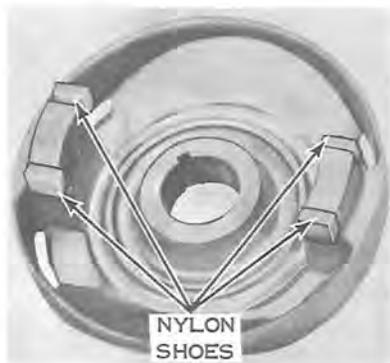

Figure 9-11. (1965)
- b. Install nylon shoes in spring cap (see Figures 9-11 and 9-12). Place spring and movable pulley half on shaft. Install retaining ring. NOTE: (1965 models) Shoes must fit in two slots on movable pulley half.